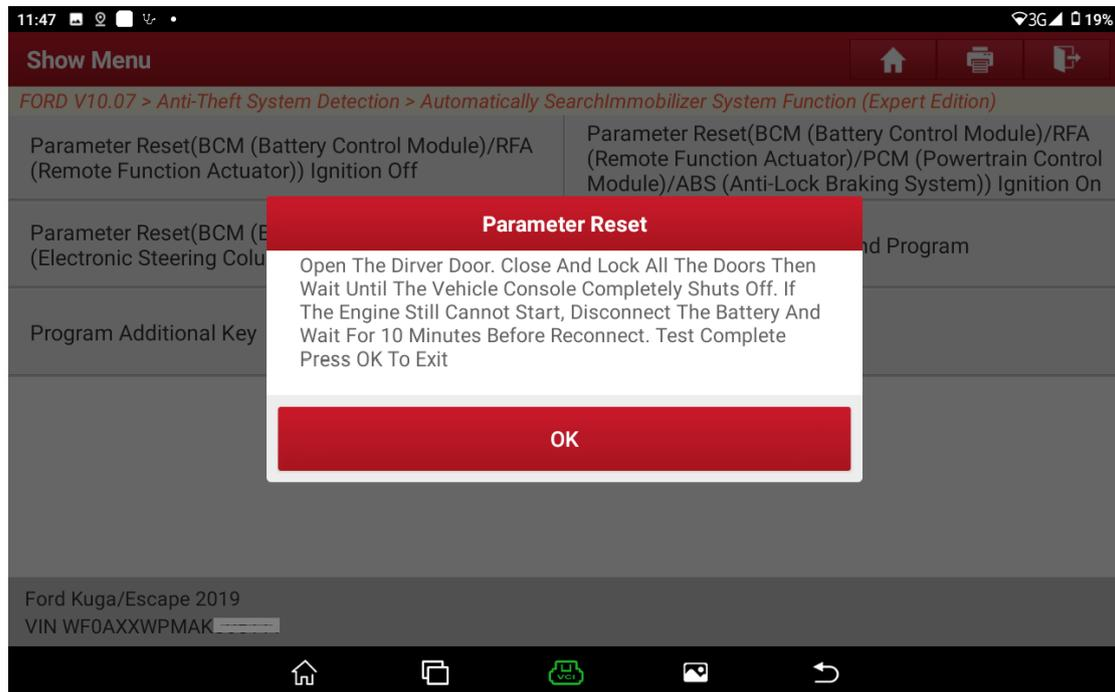

Figure 18
16. Execution is successful. See Figure 18.